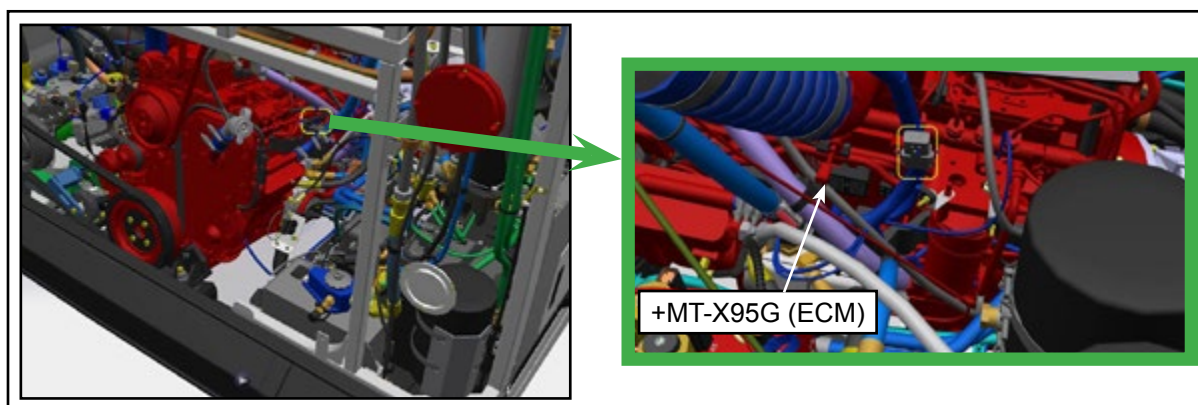

Figure 5 - Location of the +MT-X95G (ECM) Connector in the Engine Compartment
- 1.9. Locate the +MT-X95G (ECM) electrical connector in the engine compartment. See Figure 5.